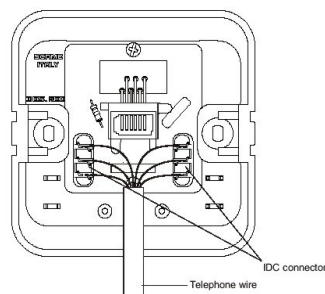

Fig. 2
- Using the insertion tool, carefully push each lead into the appropriate IDC terminals of the IDC Connector, as shown in fig:2, according to the wiring colour code indicated on the right hand side. Pins 1 and 6 are frequently unused, 4 wire cable may be used in these installations.